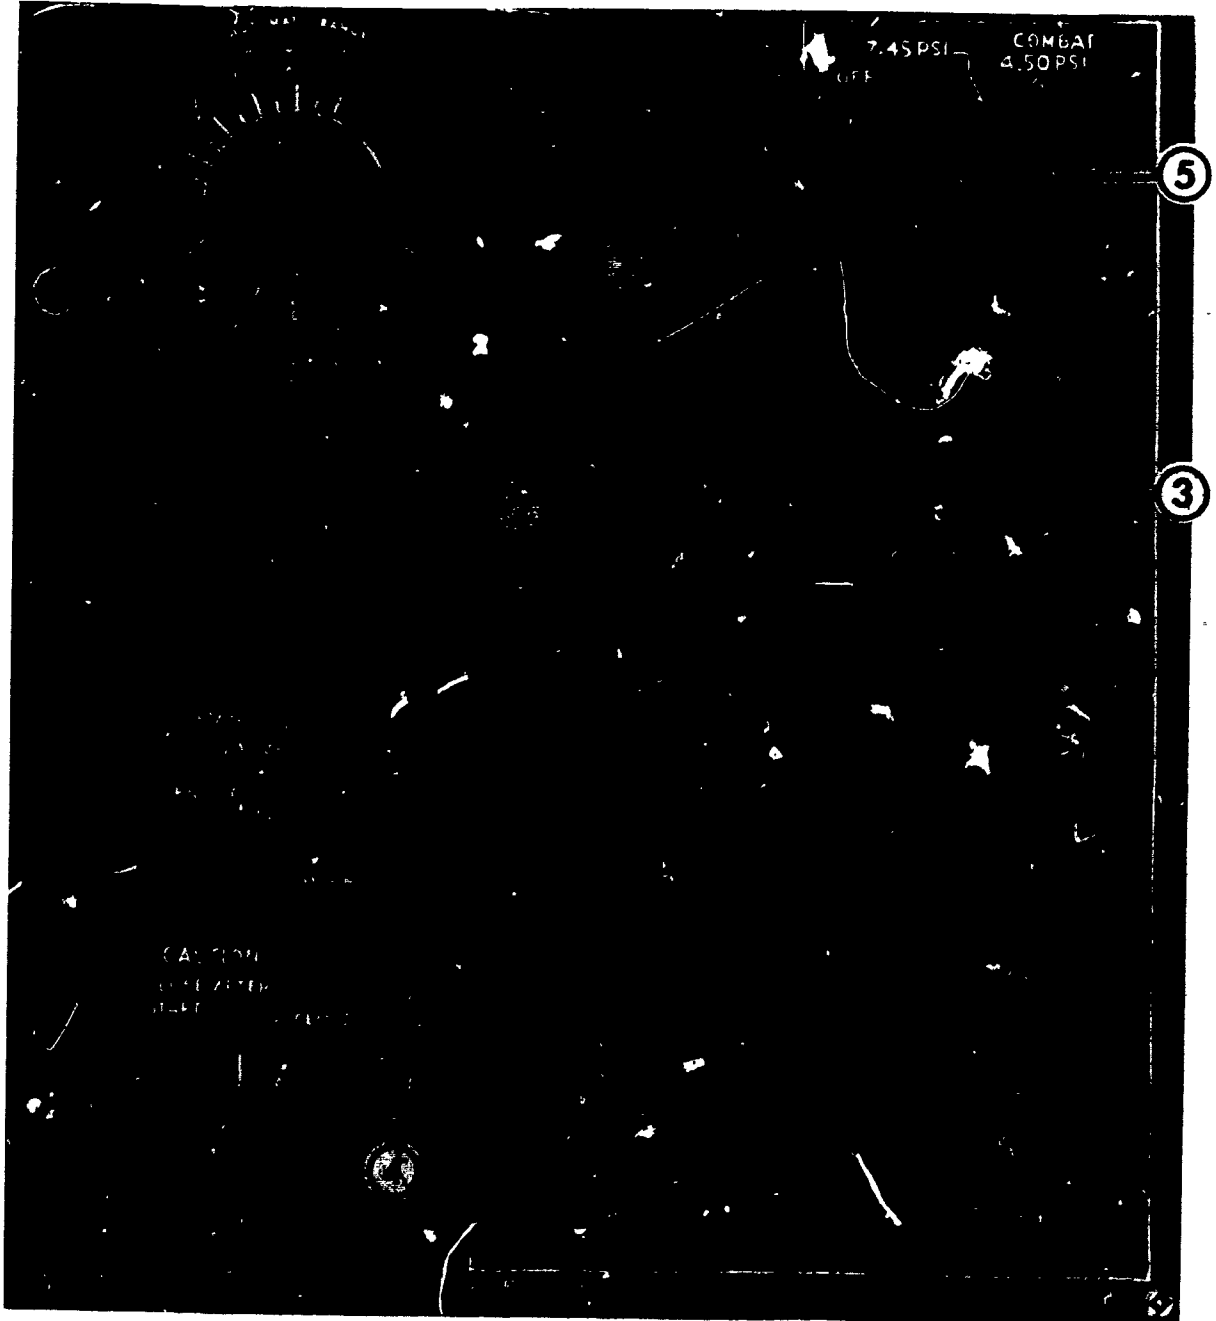

Figure 2.
- (5) Hot Air Modulating Valve.
- (6) Pack Anti-ice Valve.
- (7) Ram Air Scoop.
- (8) Temperature Control Box.
- (9) Duct Temperature Sensor.
- (10) Cabin Temperature Sensor
- (11) Dump Control Valve.
- (12) Altitude Pressure Switch.
- (13) Landing Gear Squat Switch.
- (14) Anti-ice Sensor Rheostat.
b. Using the trainer and figure 2, locate each of the numbered items. Write the names of each item in the blank spaces. As you locate the items notice the check point for checking the electrical circuit.
- (1) _____
- (2) _____
- (3) _____
- (4) _____
- (5) _____